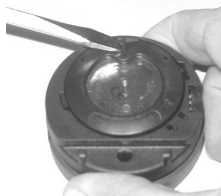

Fig. 109 - COVER RING
- While applying steady inward pressure on the center of the Battery Cover, rotate the Retaining Ring 10 degrees clockwise by pressing against the upper tab of the Ring with a small blade screwdriver (Fig. 109).